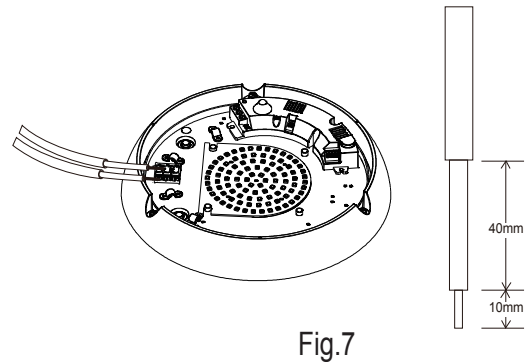

Fig.7
- Step6 Put the power line through the line hole to connect on the wiring (as Fig.7)